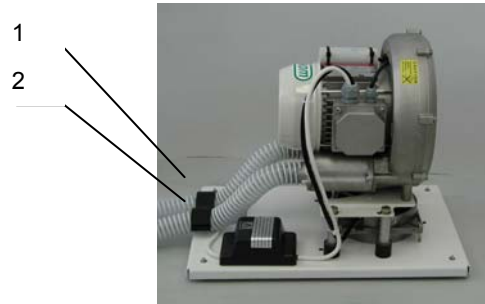

FIG.3
Two hoses, one for suction (1) and one for exhaust (2) are connected to the suction pump (Fig.3). The hoses are inlet (1) and outlet (2) of the pump. They protrude through the rear hole of the box, or they are connected to the pipe-work under the floor. Suction (vacuum) hose is connected to the separator/pneumatic control module at the dental chair, and exhaust hose is vented away from the surgery to the environment outside of the building.